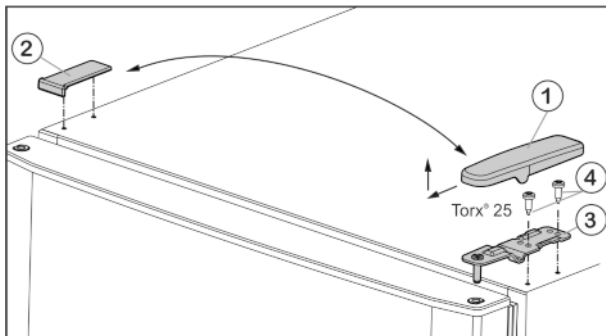

Fig. 4
- ▶ Pull off the cover Fig. 4 (1) forwards and upwards.
- ▶ Lift off the cover Fig. 4 (2).
- ▶ Unscrew the upper turn hinge Fig. 4 (3) (2x Torx® 25) Fig. 4 (4) and lift it off.
- ▶ Insert the upper turn hinge Fig. 4 (3) in the door on the new hinge side.
- ▶ Screw the upper turn hinge **firmly** into place (**with 4 Nm**) (2x Torx® 25) Fig. 4 (4). Possibly make preliminary holes with a bradawl or use a cordless screwdriver.
- ▶ Fit the cover Fig. 4 (1) on the opposite side by sliding it rearwards and latching it into place.
- ▶ Press the cover Fig. 4 (2) on the opposite side down into place until it latches.